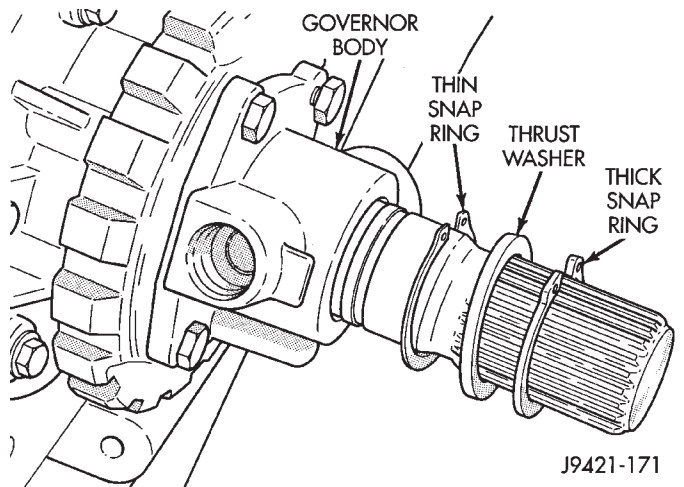

Fig. 19 Governor Body/Park Gear Attachment
(28) Remove E-clip from one end of governor valve shaft and remove valve and shaft from governor body (Fig. 19). Reinstall E-clip on shaft to avoid losing it.
(29) Remove thick snap, thrust washer and thin snap ring that retain governor body and park gear on shaft (Fig. 19).